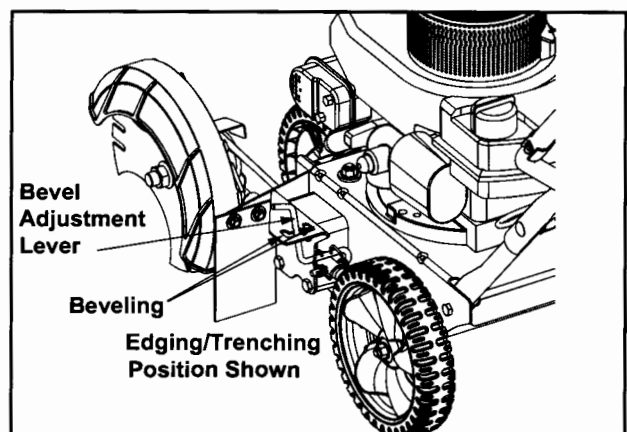
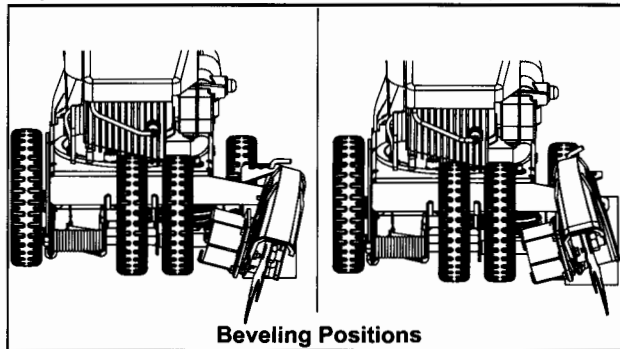
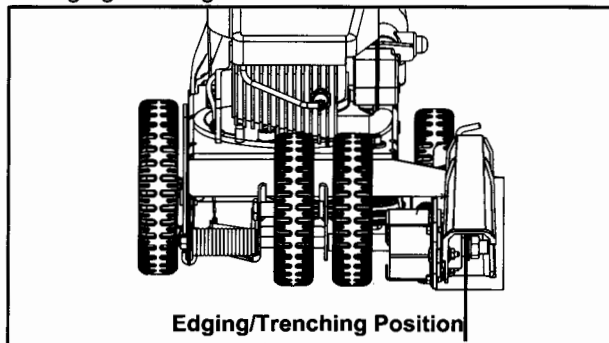

Figure 5
Figure 6
Figure 7
The angle of the edger blade can be adjusted by placing the bevel adjustment lever in one of three positions for edging/trenching or beveled edging. See Figure 5.
Set the bevel adjustment lever (refer to Figure 5 ) in the first (left hand) or third (right hand) notch to place the edger blade in position for beveling. See Figure 6.
Set the bevel adjustment lever (refer to Figure 5 ) in the center notch to place the edger blade in a 90° position for edging. See Figure 7.
- Set the bevel adjustment lever (refer to Figure 5 ) in the center notch to place the edger blade in a 90° position (see Figure 7) and place the blade depth control lever in the lowest position.